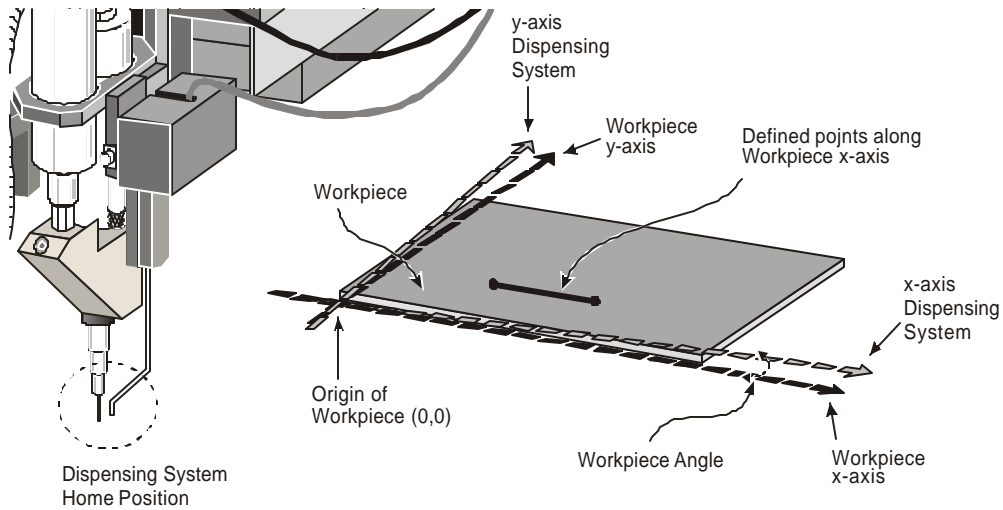

Figure 6-8
- ▶ When defining the workpiece alignment, you may also be asked to define the workpiece origin. The Origin is defined as the point where the position counters are reset to $(x_0, y_0) = (0, 0)$ as shown in Figure 6-8. All dispensing locations on the workpiece are defined in reference to the workpiece origin.